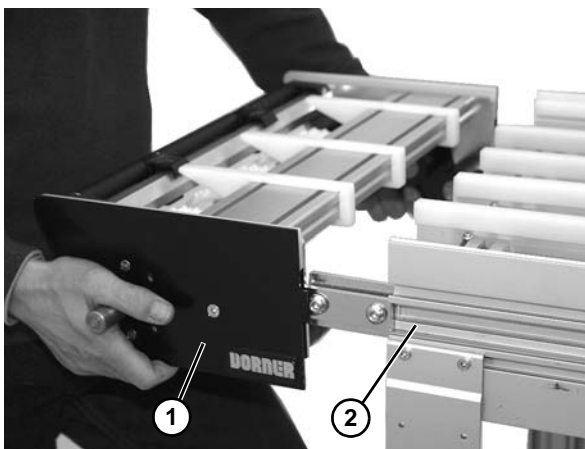

Figure 62
3. Remove the drive tail assembly (Figure 62, item 1) from the frame (Figure 62, item 2).